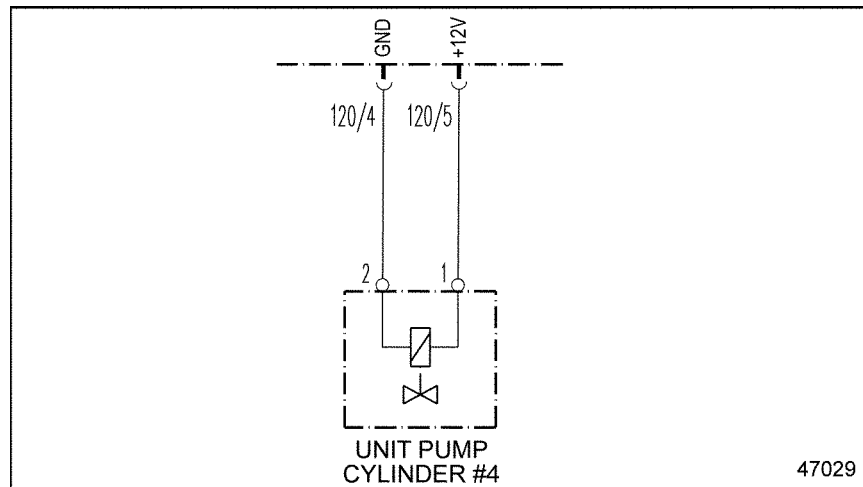

Figure 47-1 Electronic Unit Pump #4
2. Measure the voltage between pins 1 and 2 of Electronic Unit Pump #4. See Figure 47-1.